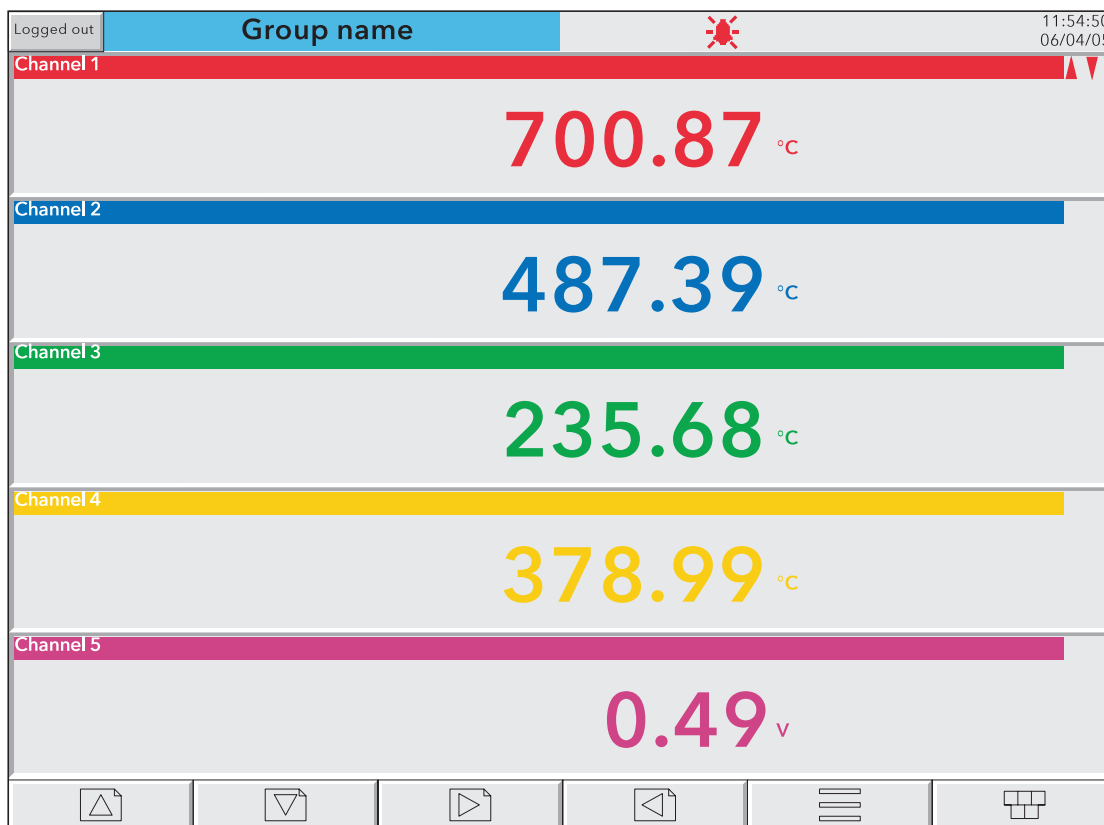

Figure 3.4.5a Numeric display mode (1 to 5 channels example)
Entered from Horizontal bargraph mode by means of the down arrow key, or selected using the Root Menu 'Goto View' key, this display mode shows the Process Variable (PV) values as digital values. The format (which is automatically selected) is based on the number of channels in the display group. Figures 3.4.5a, 3.4.5b and 3.4.5c, show typical examples of the one, two and three column versions of this display mode respectively. Within each version, the process variable display areas expand or contract to fill the screen.